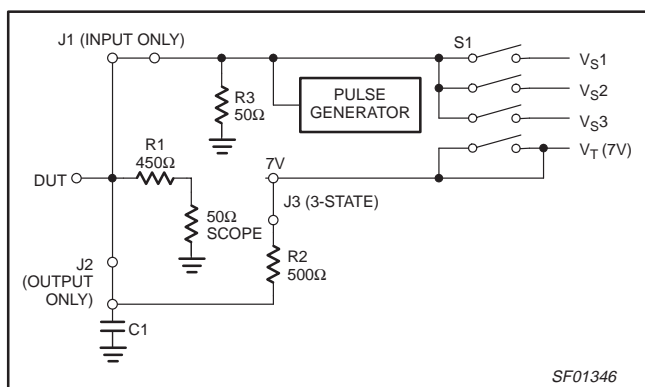
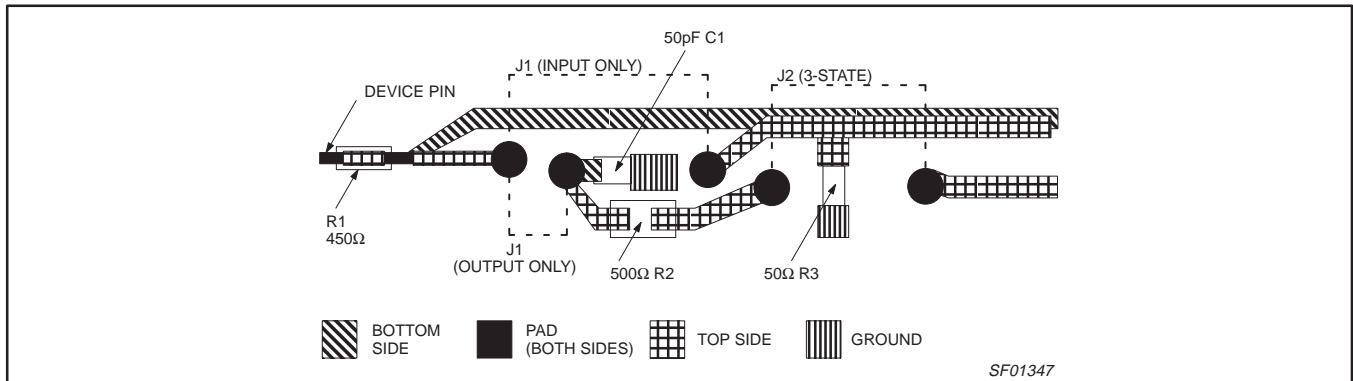
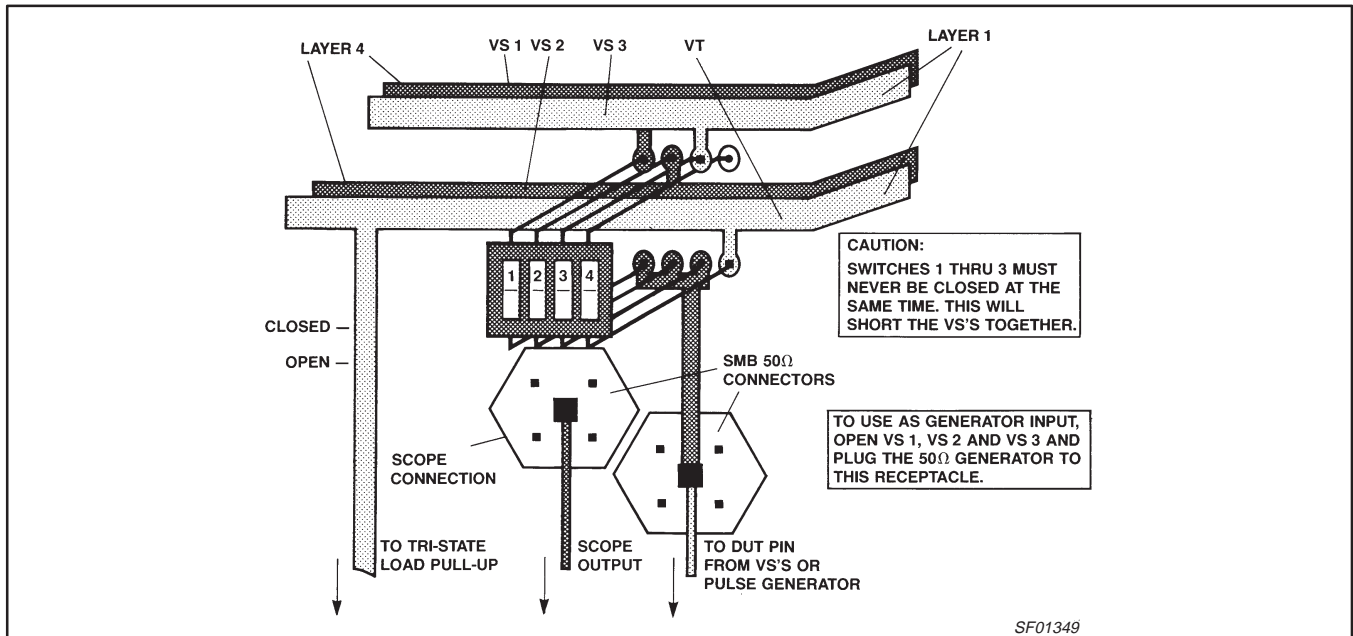

Figure 6. PCB Fixture Schematic
Figure 7. Fixture — Board
Figure 8. DIP Switch Connection for V_{S-1} , V_{S-2} , V_{S-3} , and V_T and the SMB Connectors for Input Signals and Output Measurement
There are two types of signal lines on this fixture: input and output; both of which are 50Ω transmission lines. The input line is on the top side of the board and is always terminated in 50Ω. It is connected to the DUT via a 0.3" jumper, Jumper #1 for input. When this jumper is installed, the DUT pin is available only as an input. To allow this line to be used as an output, a 0.1" jumper, Jumper #1 for output, is used instead of the 0.3" jumper. This connects the DUT pin to the AC load when the DUP pin is an output. See Figure 6.
The second reason being that most suppliers of these technologies provide data based upon the Low-impedance approach and most large users of these products do so as well. This also allows the fixture to be used for ECL testing since that product uses a totally 50Ω environment. Figure 6 illustrates how this test fixture implements the 50pF/500Ω load schematically.
As illustrated in Figure 7, the load is shared with the 50Ω input of the measurement system; a 50Ω sampling oscilloscope. The 450Ω resistor: R1, is soldered to the socket pin of the device and is in series with the 50Ω input of the scope. Figure 7 illustrates this on the board layout of one input/output pin. This allows virtually a probe tip on the device pin. The load capacitor: C1, is a 33pF ceramic chip capacitor. This is added to the measured value of 17pF of board capacitance, achieving the 50pF value specified for the load. The distance from the pin to the capacitor is 0.5 inches and is adequate for the testing of these product families.
For testing 3-State parameters, the 500Ω resistor: R2, is connected to its pull-up supply. V_T via a 0.3" jumper: Jumper #2. The V_T supply is bussed to each pin and may or may not be connected with that jumper. See Figures 6 and 7.
When the input is not used for a signal input, the line may be switched to one of three voltage sources: V_{S-1} through V_{S-3} , by the use of a DIP switch on each pin. It may also be left open and then the 50Ω pull-down resistor: R1, pulls the line to ground and can be used as a hard low level. See Figure 6. These voltage levels are brought in from external supplies through banana connectors like V_{CC} . This scheme eliminates excessive cabling to each input to provide the static input levels and thereby reduces parasitic inductances and cross-talk. Each of the 3 busses and the V_T bus all have places for bypass capacitors in the event of noise on the static levels. Figure 8 illustrates the DIP switch and SMB connectors and how they control the input stimulus and output measurement.
As stated previously, the measurements are made with 50Ω sampling systems. The connections to these systems are made via SMB connectors. This was chosen since it is compatible with SMC; it is push-on, it is small for easy configuration, and it is capable of high bandwidth operation. Figure 8 illustrates where the connections are made, where the pulse generators connect to the input and an SMB connector. Since the 450Ω resistor: R1, is soldered directly to the pin of the device, the actual probe tip is at that point. See Figure 7. This has the advantage of eliminating any distance from the device to the probe tip, thus guaranteeing accurate results.
- The V_T supply (banana jack): this is the 3-State pull-up voltage and is permanently connected to the bus to each pin. It is selectable by Jumper #2, see Figures 6 and 7. For FAST and ALS products this is 7V. For ACL products this is $V_{CC \times 2}$ and it is not used for ECL applications.
- Mount the SMB connector with flat side out rather than point side out. See Figure 8.